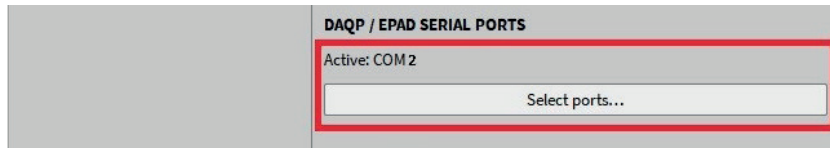

Figure 3: Selection of the proper COM port
- > Select the proper Serial Port for your EPAD2-module by clicking on the *Select ports...* button (see Figure 3). Systems in **Europe** are typically assigned to **COM2** and systems in the **USA** are typically assigned to **COM3**).